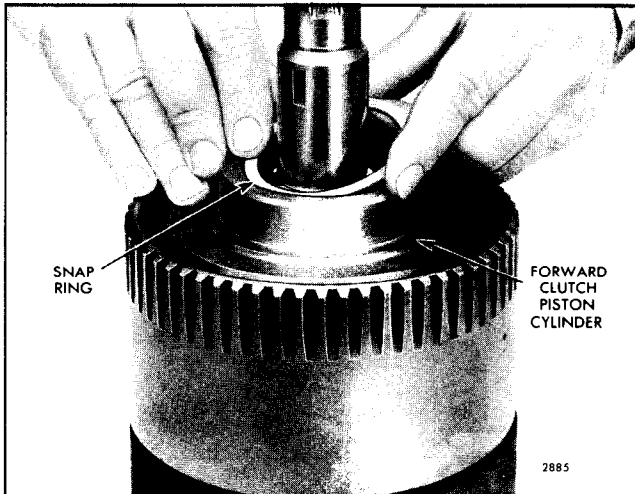

Fig. 69 - Installing Bearing Retaining Snap Ring in Forward Clutch Piston Cylinder
i. Install the snap ring in the groove of the forward clutch piston cylinder next to the bearing outer race as shown in Fig. 69.